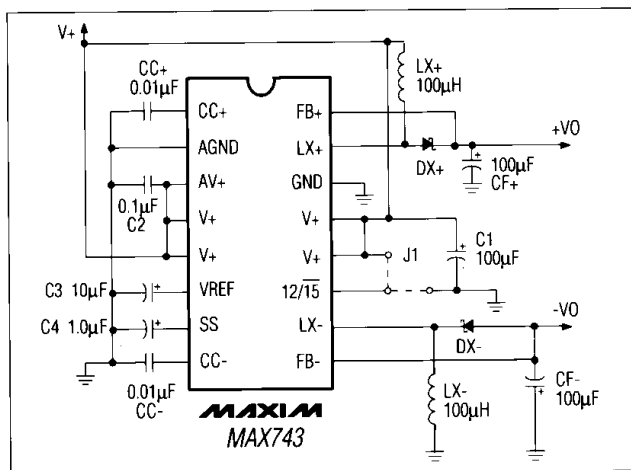
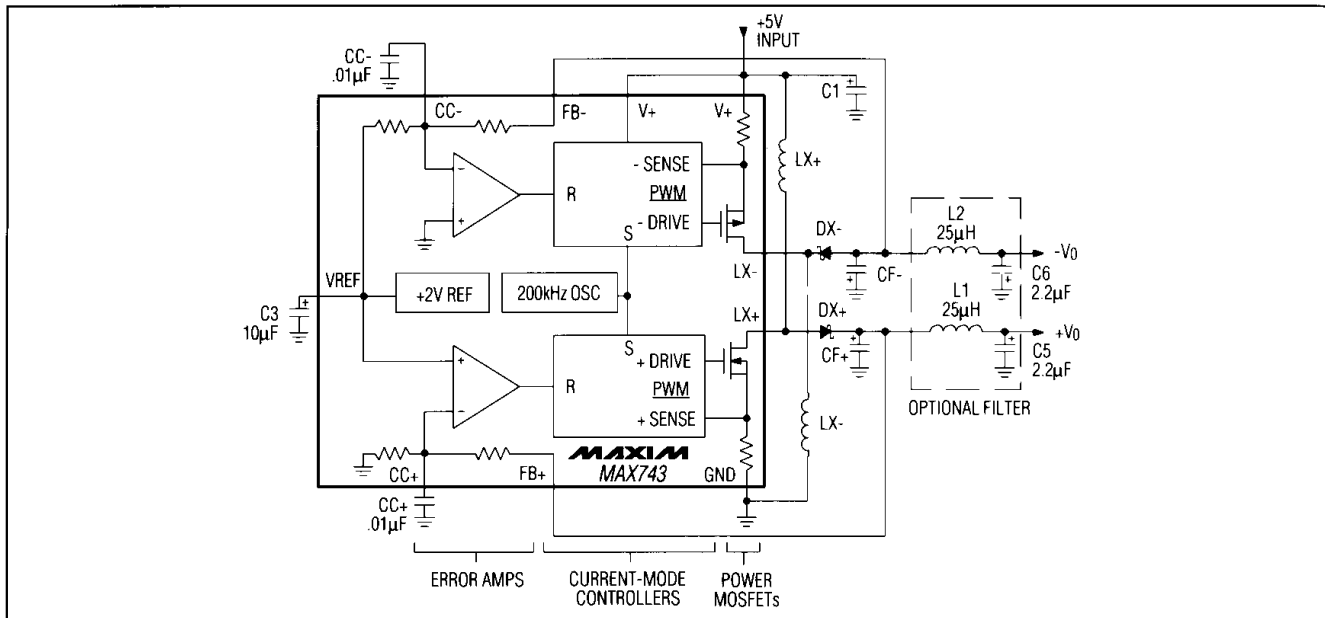
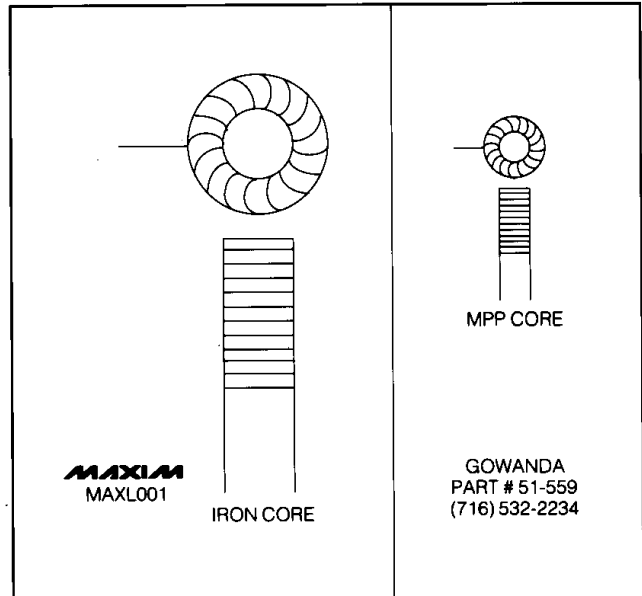
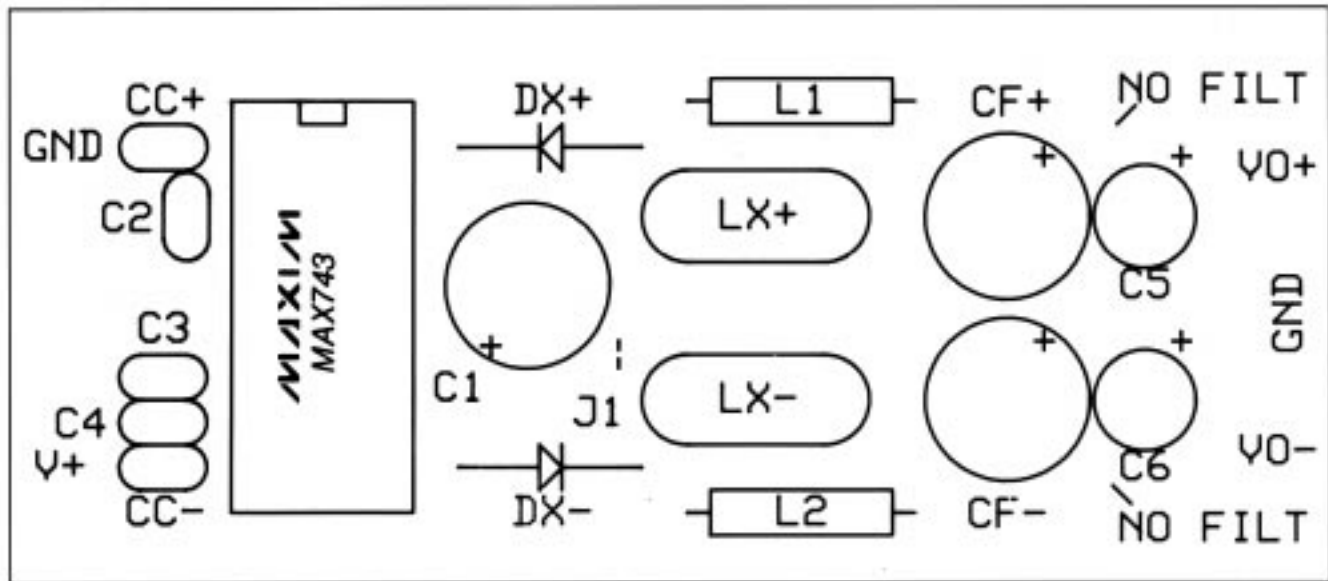

Figure 1. Basic Application Circuit
Figure 4. Functional Diagram with Optional Pi Filter
Figure 5. 100µH Low-EMI Inductors for 3W Supplies (Actual Sizes) (See Table 1)
Figure 7. Component Placement Diagram for PC Layout of Figure 6
(Circuit of Figure 1, $+4.5V < V_+ < +5.5V$, Note 1.)
(Circuit of Figure 1, $V_+ = +5.0V$, $12/15$ pin = $0V$, $I_{LOAD} = 0$, $T_A = T_{MIN}$ to T_{MAX} , unless otherwise noted.)
The circuit in Figure 1 has been tested at all line, load, output current, and temperature limits. Refer to the Electrical Characteristics table for guaranteed in-circuit specifications. Successful use of this circuit requires no component calculations.
The MAX743EVKIT Evaluation Kit demonstrates the output capabilities and noise performance of the MAX743 standard application circuit (Figure 1). The kit includes main switching components identical to those found in the high-volume production kit described on page 11 (MAX743CPEKIT). With a few quick modifications, the circuit can also serve as a low-noise test bed to evaluate other components, such as the miniature MPP toroid inductor of Figure 5. The kit includes optional Pi filters shown in the Functional Diagram (Figure 4), which reduce output noise to less than 2mVp-p.
1. Build Circuit. Assemble the PC board according to the component placement diagram of Figure 7 and the schematic of Figure 4. 3 resistors will be left over (and used for testing). The extra holes near LX and CF are options for nonstandard component sizes. Do not install jumper, J1, or C4.